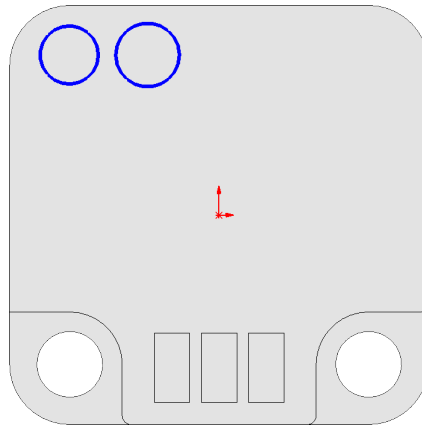

Fig. 57
Step 4. Sketch **two circles in top left**, **Fig. 57**.